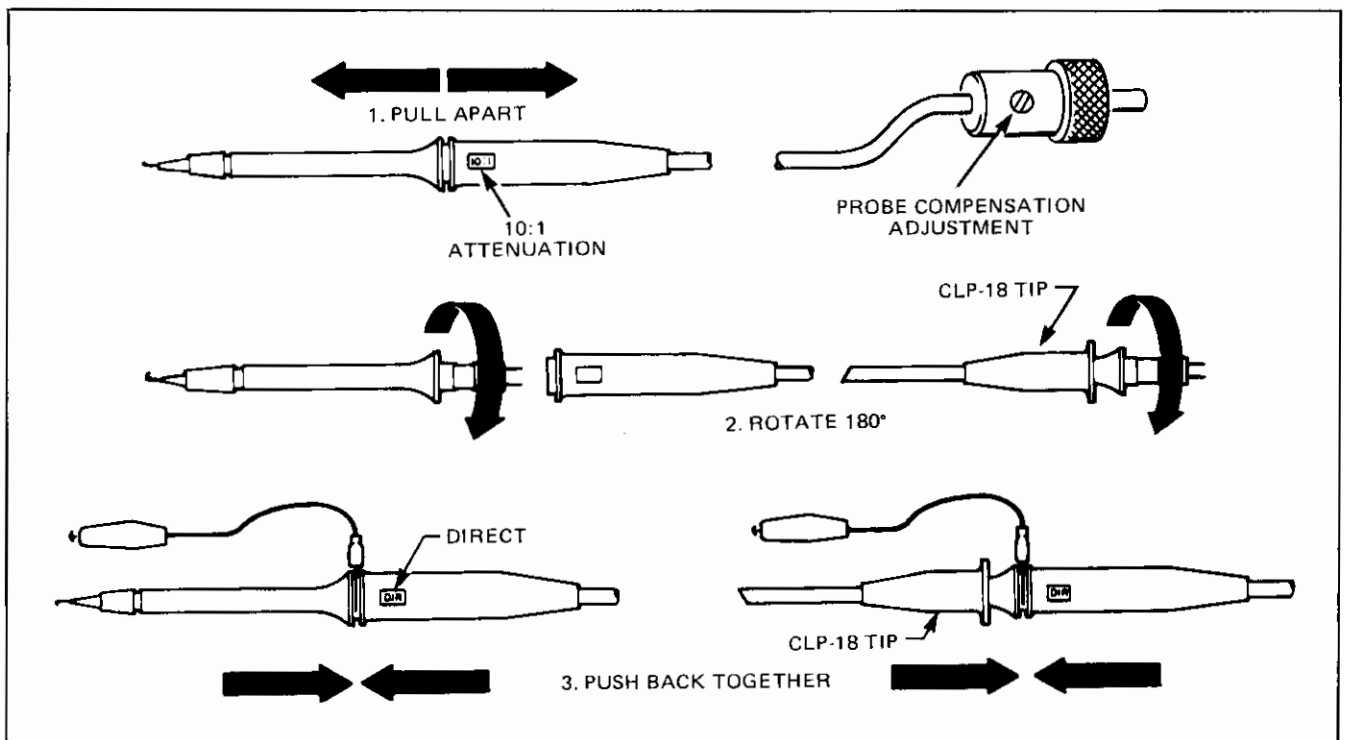

Fig. 3. Probe details.
33. Probe (see Fig. 3). The B & K-Precision Model PR-35 combination 10:1/Direct probe has been designed for use with this oscilloscope. However, any probe designed for use with an oscilloscope having a nominal input impedance of 1 megohm shunted by 27 pF and capable of operation up to 15 MHz, can be used.
2. For all except low-amplitude waveforms, the probes are set for 10:1 attenuation. For low-amplitude waveforms (below 0.5 volt peak-to-peak), set the probe for DIRECT. See Fig. 3 for changing the probes from 10:1 to DIRECT, or vice versa. The probe has a 10 megohm input impedance with only 18pF shunt capacitance in the 10:1 position and 1 megohm with 120 pF shunt capacitance in the DIRECT position. The higher input impedance (low-capacity position) should be used when possible, to decrease circuit loading.
3. If the recommended B & K-Precision Model PR-35 oscilloscope probes are used, 10:1 attenuation should be used except for waveforms of 0.5 volt peak-to-peak or less. For the lower amplitude waveforms the DIRect position should be used. See Fig. 3 for changing the probe from 10:1 to DIR or vice versa. Whenever possible, use the high impedance, low capacity 10:1 position to minimize circuit loading.